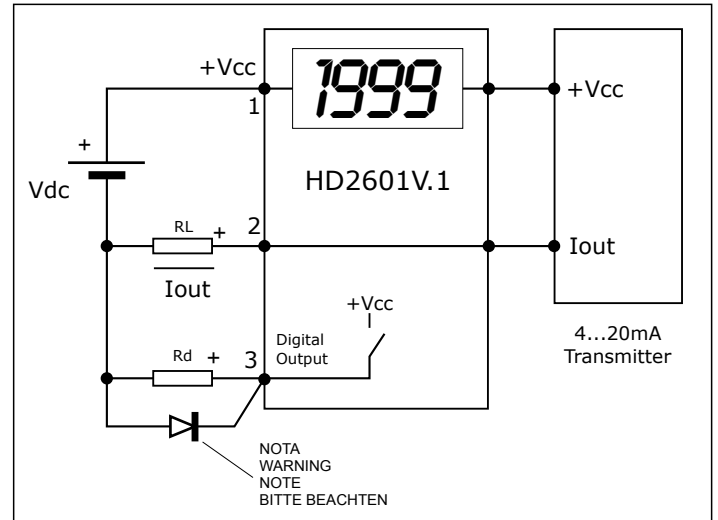

Fig. 2 HD2601V.1 connection
Fig. 2 and 3 illustrate the electrical connections of the single model HD2601V.1 and the dual model HD2601V.2.
**NOTE on Fig. 2:** if a relay coil is controlled, insert a diode protecting the device's output.
The **RL maximum load** applicable to the 4...20mA loop, after insertion of the display, can be calculated as follows (see Fig. 2 and 3):